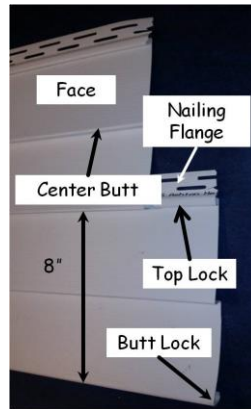

Figure 11-12. Siding Nomenclature.
3. Measure the distance from the top of the nail flange to the bottom of the top lock (see Figure 11-12). This is normally 1¼" to 1¾". Add this measurement to 8" and 40" to obtain the height of the lower and upper quality lines in Step 4, below.
3. As shown in Figure 11-12, the butt lock of each course locks into the top lock of the course below.
4. On the 8s: The visible portion of each siding course is 8” high (see Figure 11-12). For each new course, snap the butt lock onto the top lock of the previous course along the entire piece. Nail the ends and middle, then measure up from the **BOTTOM** of the first course to the **BOTTOM** of the course being installed. Each measurement should be a multiple of 8 (e.g. 8”, 16”, 24”, 32”). At each nail position, before nailing, check the measurement and adjust up or down to an even multiple of 8, and finish nailing the entire piece. Recheck as necessary and adjust the position of the nailing flange and re-nail, if required. Small adjustments can be made by tapping the nail head up or down as required. When installing the first and fifth courses, be sure the top of the siding (the nail flange) just touches the quality line previously snapped (see Section 11.1.6.4) on the wall.